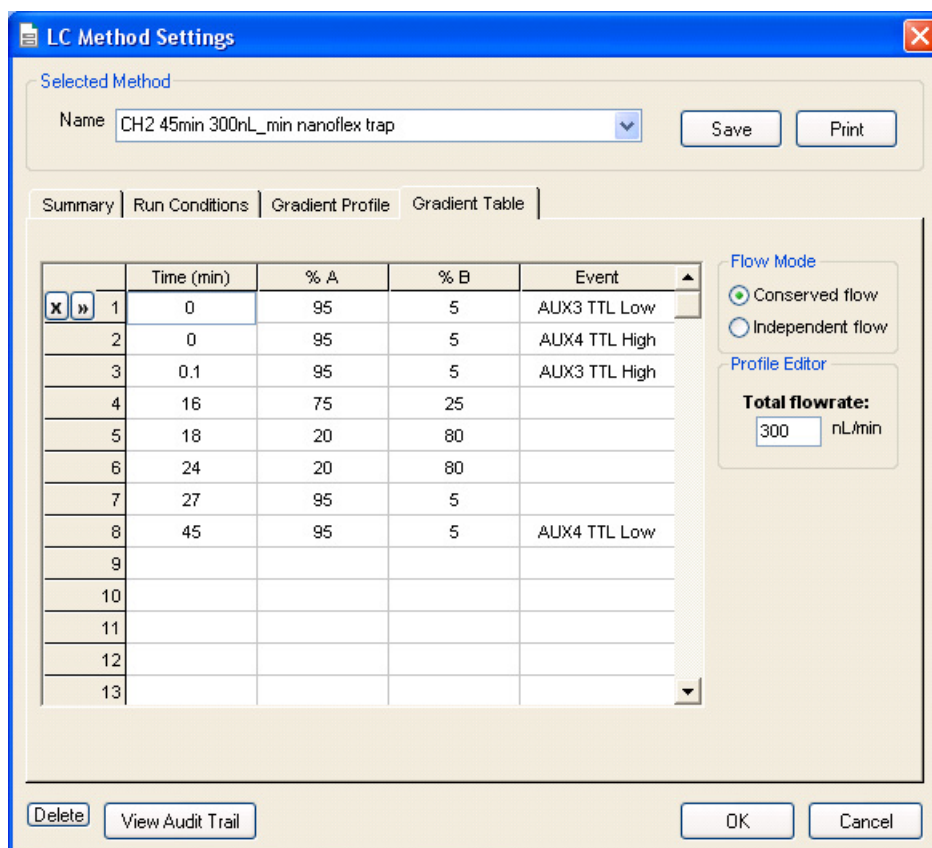
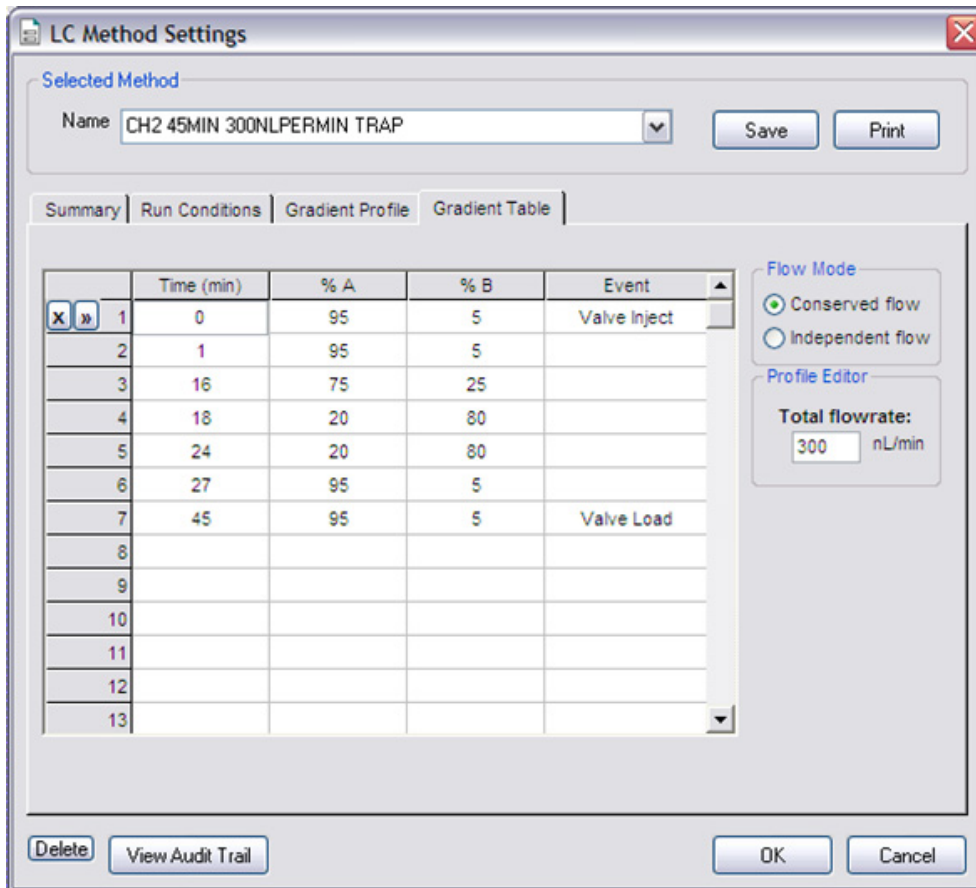

Figure 2-16 LC Method Settings dialog—Gradient Table tab (Nanoflex system)
Figure 2-17 LC Method Settings dialog—Gradient Table tab (column)
4. On the **Gradient Table** tab, specify the method, as shown in Figure 2-16 or Figure 2-17, depending on the installation.